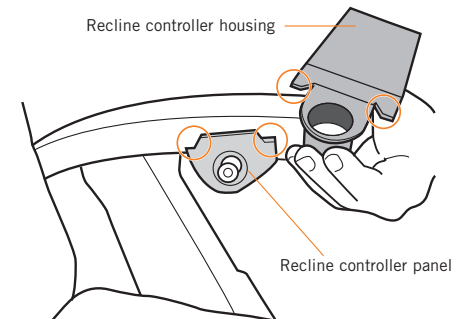

Fig.7
2. **PC-600/610:** Note the shape of the top of the recline controller panel and the matching shape of the recline controller housing (Fig.7).